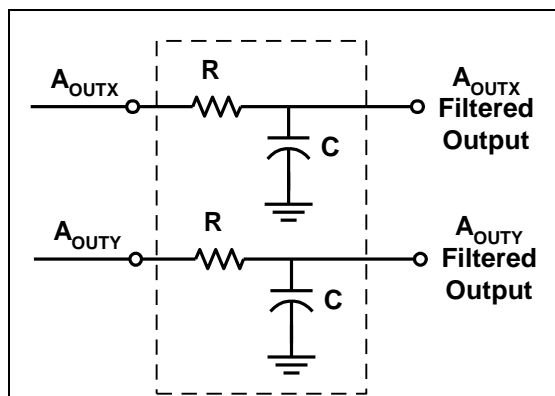

Figure 5: Low Pass Filter
**Low Pass Filter:** An external low pass filter is useful in low frequency applications such as tilt or inclination. The low pass filter limits the noise floor and improves the resolution of the accelerometer. The low pass filter shown in Figure 5 has a –3dB breakpoint given by the equation: